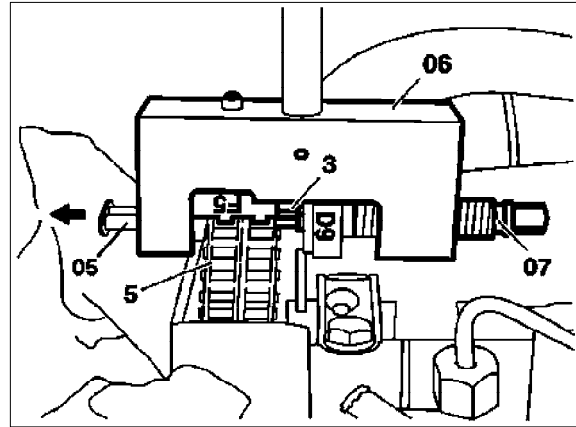

Figure 8
17. Attach swaging jaws (F5 and D9, Figure 8), Special Tool 602 589 02 63 00 into link assembly tool (06).
18. Insert new timing chain connecting link (3, Figure 8) into timing chain ends (5).
19. Lay link assembly tool (06) onto timing chain (5, Figure 8).
20. Press in new timing chain connecting link (3, Figure 8) by turning link assembly tool mandrel (07, Figure 8).
Assembly link (05) will be pushed out in forward direction (arrow, Figure 8), when pressing in new timing chain connecting link (3, Figure 8).